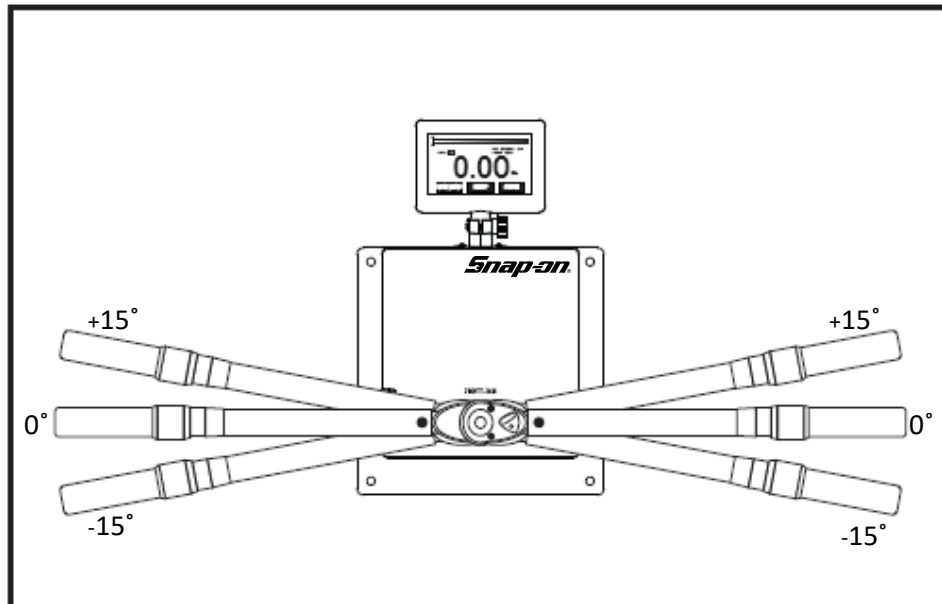

Figure 13: Torque Wrench Position, Perpendicular to Tester
- Always position a torque wrench within $\pm 15^\circ$ of perpendicular to the display housing (Figure 13).